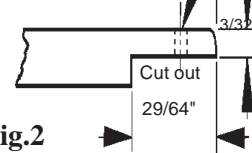
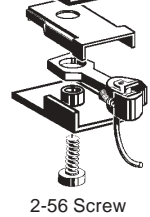

Fig.2
Fig.3
5. Drill and tap a new 2-56 coupler mounting hole 1/4" from the front edge and on the centerline of the bracket. See Fig.2. Install #27 Coupler as shown in Fig.3, using a 2-56 screw inserted from bottom side of coupler mounting bracket to secure coupler. Trim end of screw flush with top of bracket.